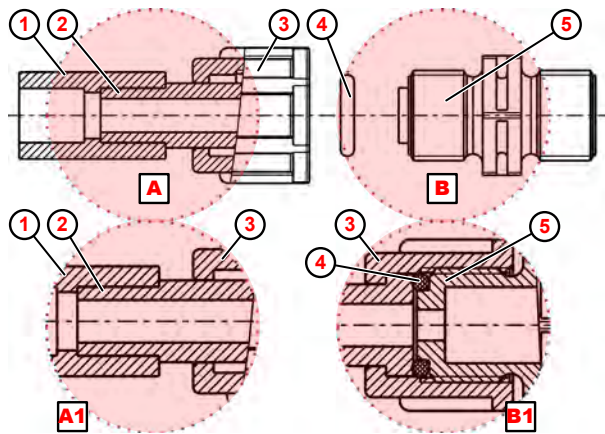

Fig. 10: Pipe connection with weld-on joint
1. ➤ Weld the weld-on concentration ( Fig. 10 , ① ) to the hose connection.
2. ➤ Place the o-ring ④ in the groove of the suction or pressure valve ⑤ .
3. ➤ Tighten the ③ union nuts (for details, ▣ B1 ).